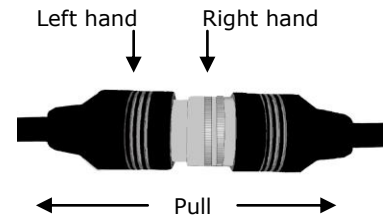

Figure 6: Disconnecting
3. Disconnect the Control Box from the Tray. To do this, grasp the black connector of the tray cable in the left hand and the silver textured rings of the Control Box cable connector in the right hand. Pull apart. (See Figure 6.)